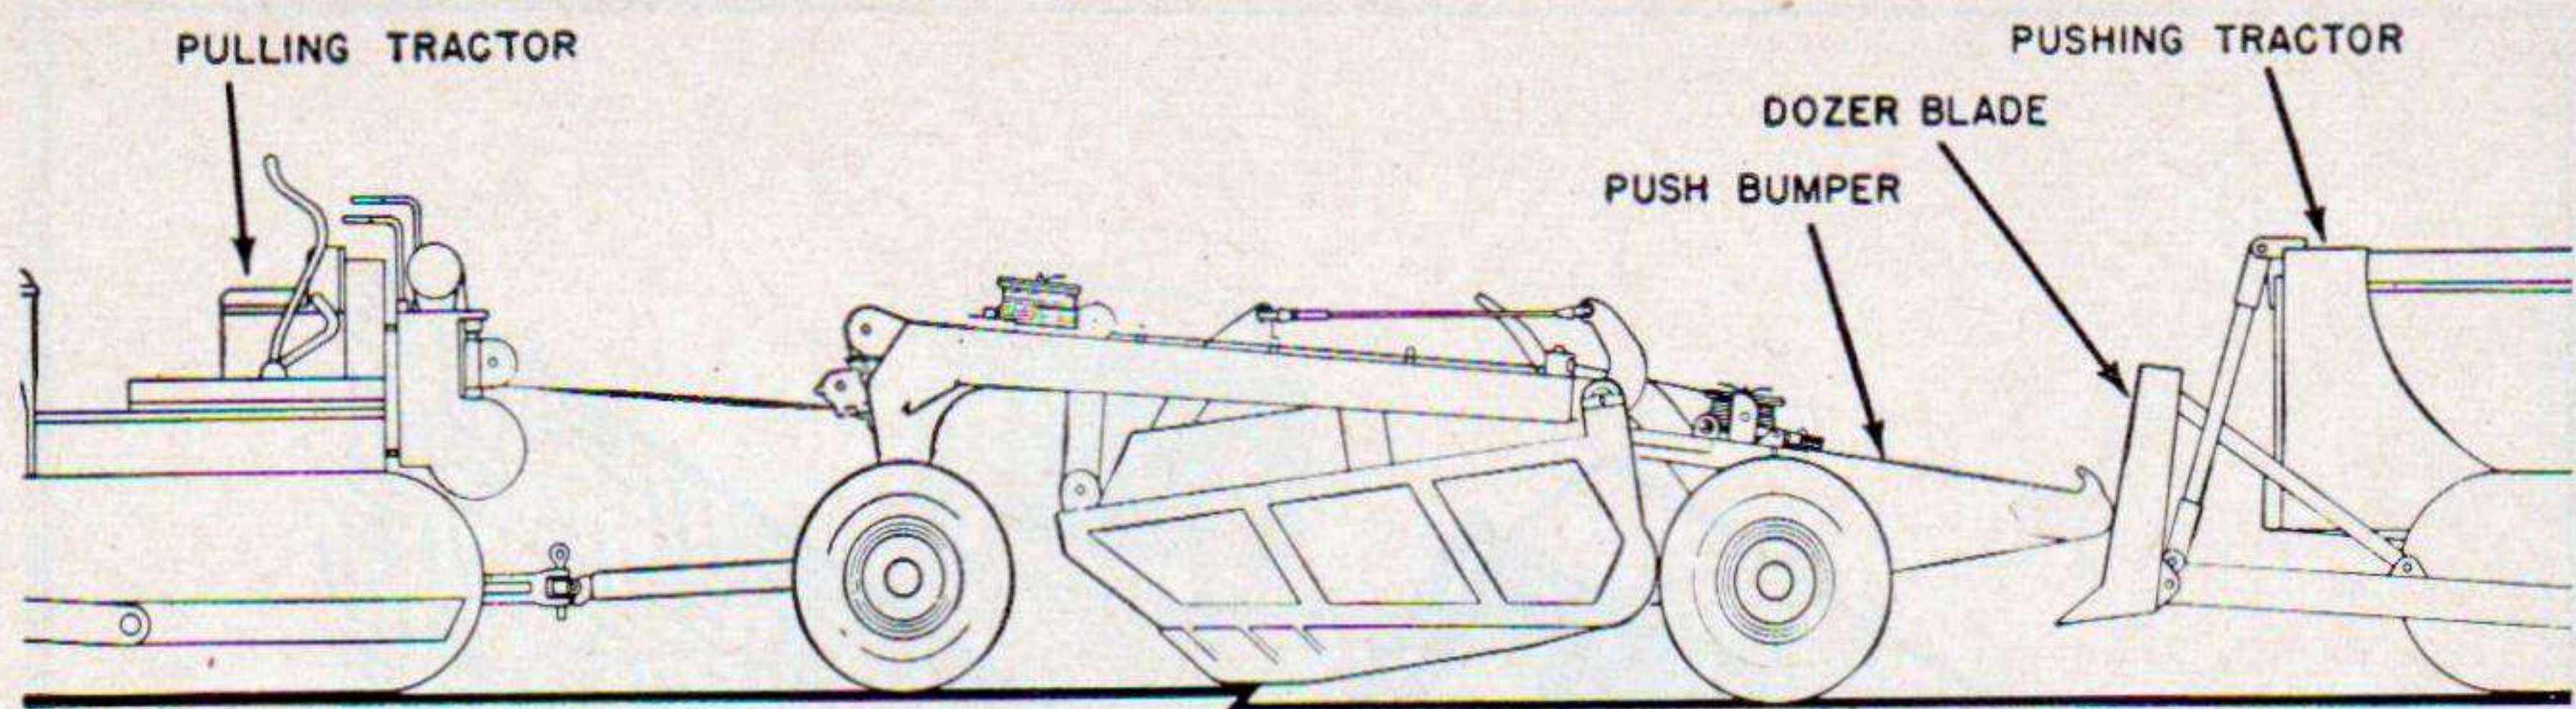

Figure 16. Pusher loading.
- (1) The scraper operator should load the scraper in the normal manner when using a pusher tractor (fig. 16).